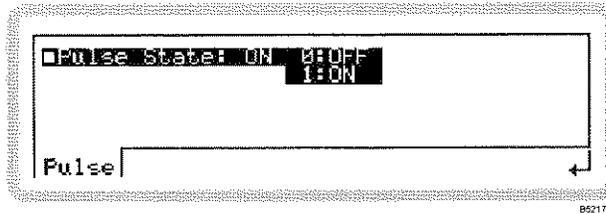

Fig. 3-77 Pulse modulation
- 3 Press **SIG GEN** to show the main screen, and touch the **Pulse** soft box to select the function. Touch **Pulse** and press **↵** to view the pulse modulation menu (Fig. 3-77).